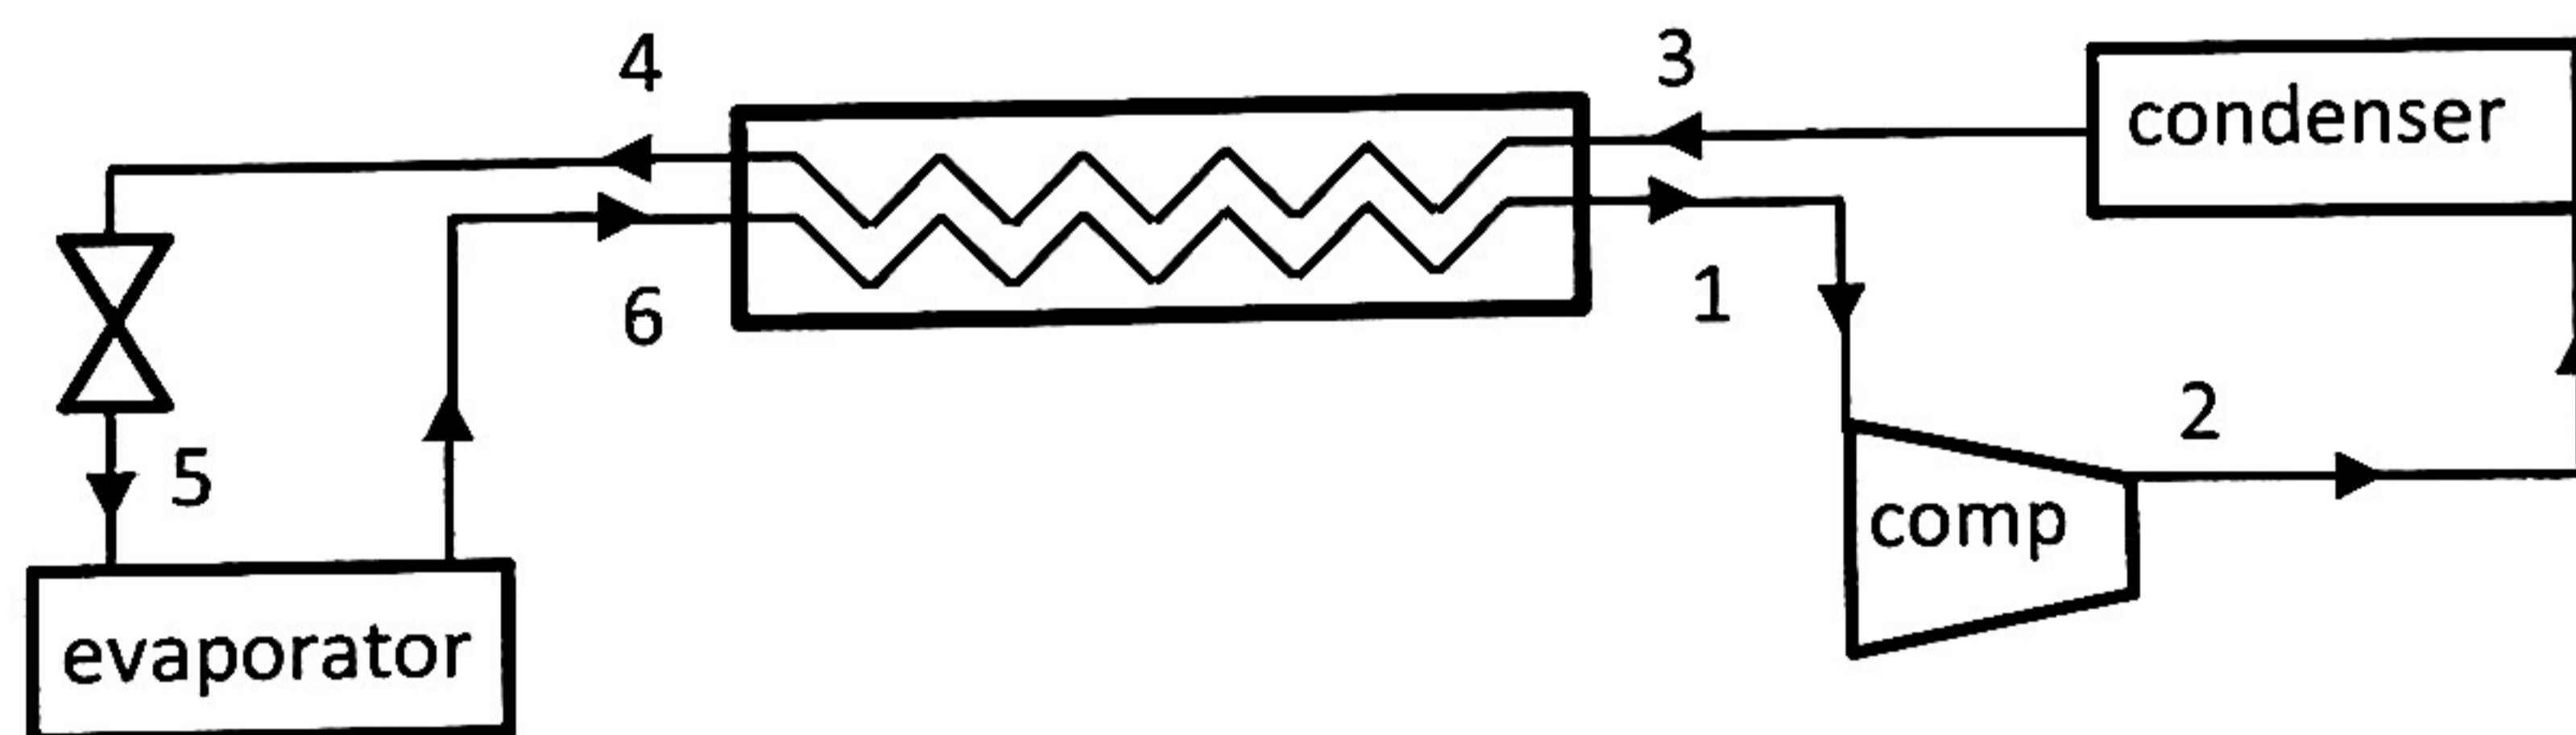

Fig. Q6
6. In the refrigeration plant shown in Fig Q6. A surface heat exchanger is used to cool the liquid entering the expansion valve. The operation of the heat exchanger may be considered to be adiabatic.